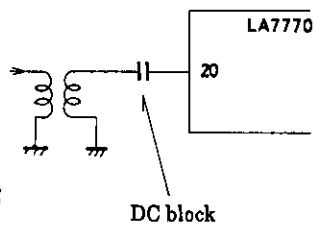

Fig.2
- a. Since an internal bias is applied to the input pin (pin 20), be sure to provide a DC blocking capacitor as shown in Fig.2.